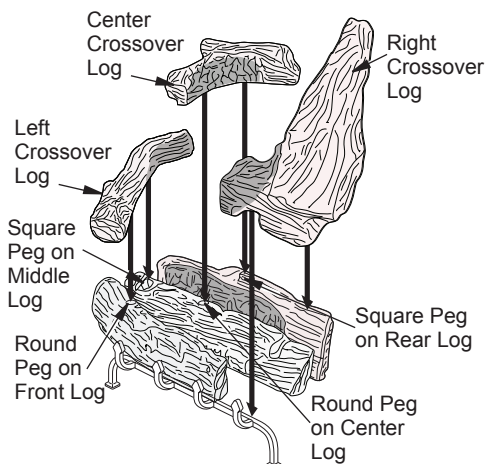

Figure 20 - Installing Left, Center and Right Crossover Logs
4. Place left crossover log as shown in Figure 20, page 17. Match square peg on top of center log with square hole on bottom of left crossover log. Match pin on top of front log with round hole on bottom of left crossover log.
5. Place center crossover log as shown in Figure 20, page 17. Match square peg on top of rear log with square hole on bottom of center crossover log. Match pin on top of center log with round hole on bottom of center crossover log.
6. Place left front crossover log as shown in Figure 20, page 17. Log should rest on the grate and fit into recess area on the center log.